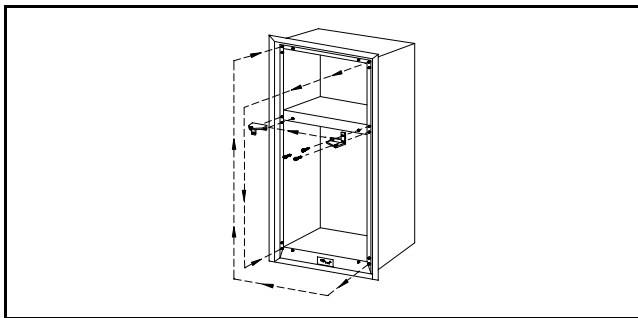

Figure 10
5. Remove the middle hinge bracket by using the #2 phillips screwdriver and taking out the three screws holding it in place. Next, with fingernails, lift and remove the three hole plugs on the opposite side corresponding to the center hinge location. Relocate them in the holes just exposed by the removal of the hinge bracket. Using the same screws, attach the hinge bracket to the refrigerator where the hole plugs previously were. Do not tighten screws completely. (See Figure 10)